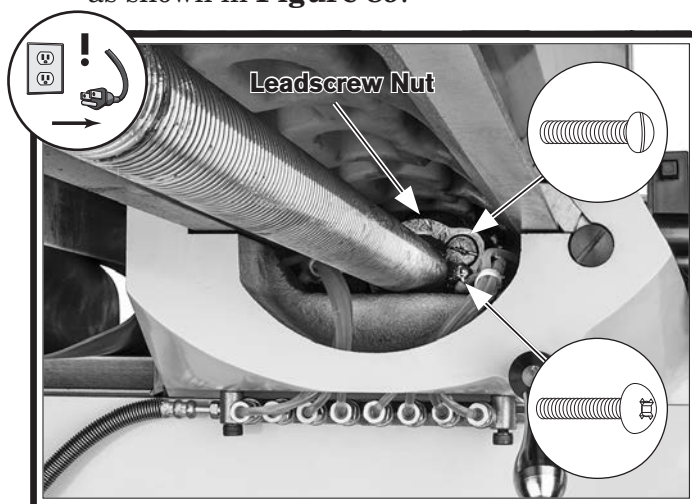

Figure 89. Longitudinal leadscrew nut and adjustment screw, as viewed from underneath left side of table.
2. Loosen Phillips head screw on leadscrew nut accessed from underneath left side of table, as shown in **Figure 89**.